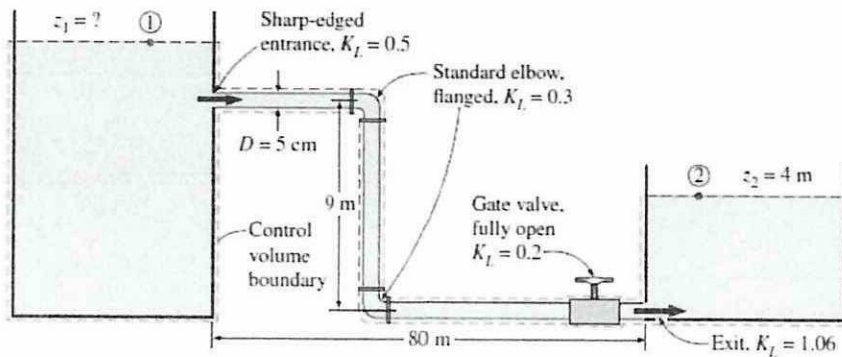

Figure Q4 (c).
- (c) Water at 10°C flows from a large reservoir to a smaller one through a 5 cm diameter cast iron piping system, as shown in **Figure Q4 (c)**. Determine the elevation z_1 for a flow rate of 6 L/s. Use the Moody Diagram provided to calculate the friction factor.